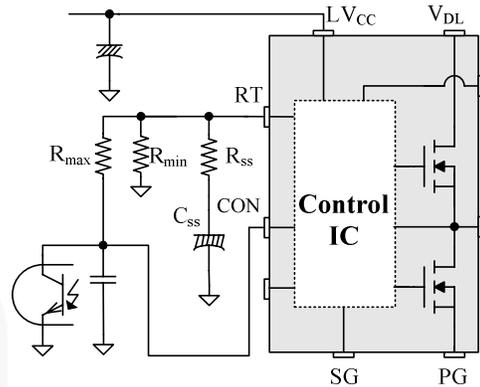

**Figure 21. Internal Block of Control Pin**
**4. Control Pin:** The FSFR-series has a control pin for protection, cycle skipping, and remote on/off. Figure 21 shows the internal block diagram for control pin.